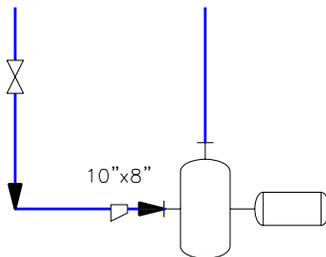

Figure 2-71 A gate valve and an eccentric reducer placed on the line connecting the first pump
1. Choose **Eccentric Reducer** from the **Piping Fittings** area in the **Fittings** tab of the **TOOL PALETTES - P&ID PIP** and place it on the line connecting the horizontal nozzle of the pump, as shown in Figure 2-71.
2. Place a gate valve on the same line, refer to Figure 2-71.